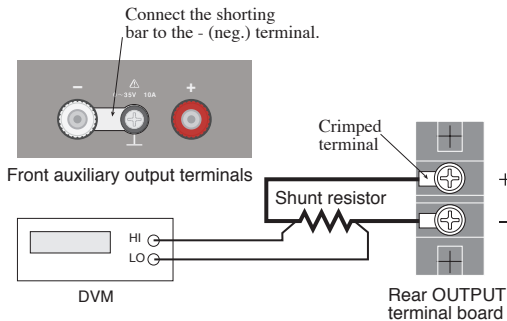

Fig.6-3 Connection for current system adjustment
4. Connect a shunt resistor and DVM as shown in Fig.6-3.